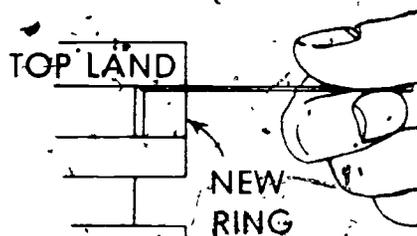

FIGURE 5
2. Insert feeler gauge between ring and groove (Figure 5)